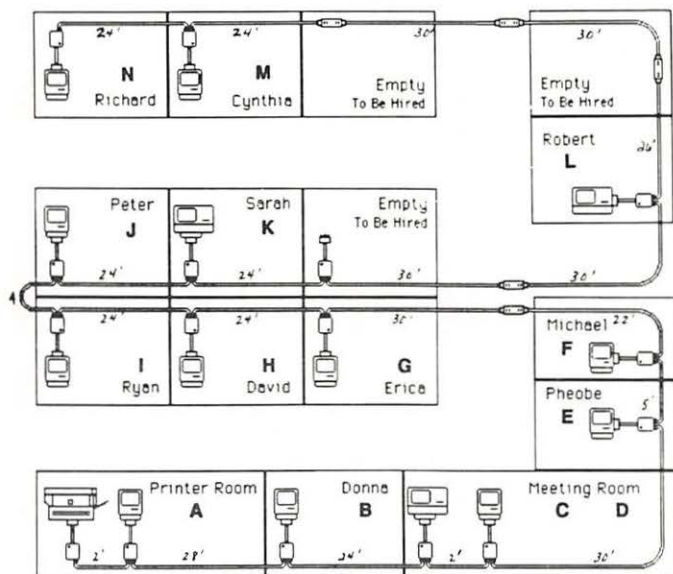

FIGURE 9
1. Draw a cabling diagram and assign each computer a name (Figure 9).